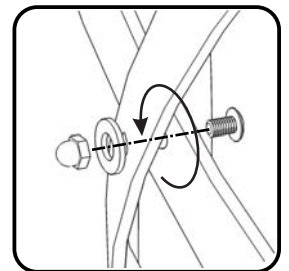

Figure 5
Attach other Back Rail (E) to unit with Bolt (long), Bolt (short), Small Flat Washers and Nut Caps. (See Figure 5)